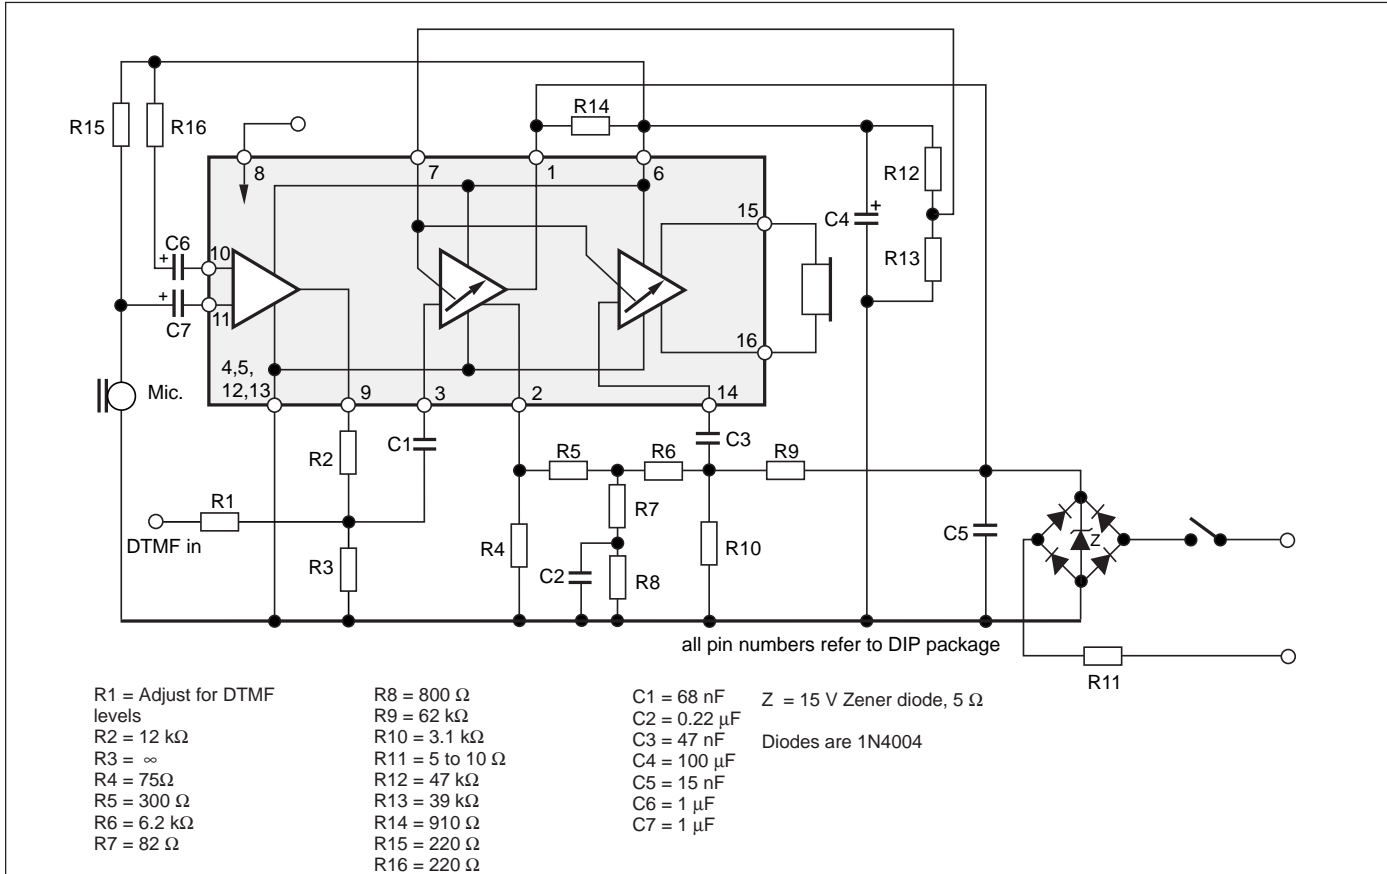

Figure 6. Basic application for 48V/2 X 400 ohms battery feeding system and electret microphone and dynamic receiver.
Figure 6 shows the PBL 3783 and associated components in a basic
2. R7, R8 and C2 should simulate the amplitude and phase response of the line impedance seen at the line terminals. The impedance level of the balancing network should be about one tenth of the line impedance. The values given in figure 6 is a good starting point in most cases.